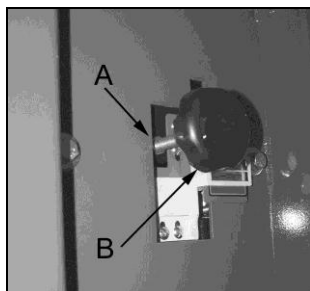

Figure 7
3. If adjustment is necessary, loosen the hex nut (A, Figure 7) on the rear of the machine near the tension indicator.
4. Adjust tracking by turning the knob (B, Figure 7) in 1/4 turn increments. Rotate wheel forward, and observe the position of blade on the wheel. Rotating the knob counter-clockwise will move the blade towards the front of the wheel. Rotating the knob clockwise will move the blade towards the back of the wheel.
6. Tighten the hex nut (A, Figure 7) while holding knob (B, Figure 7).